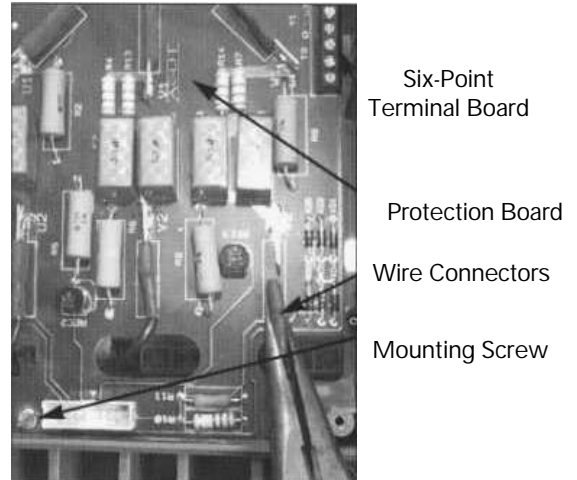

Figure 11. Removing the wire connectors from the Protection Board.
2. Remove the six wire connectors from the Protection Board, as shown in Figure 11. Note the locations of these terminals for reassembly.